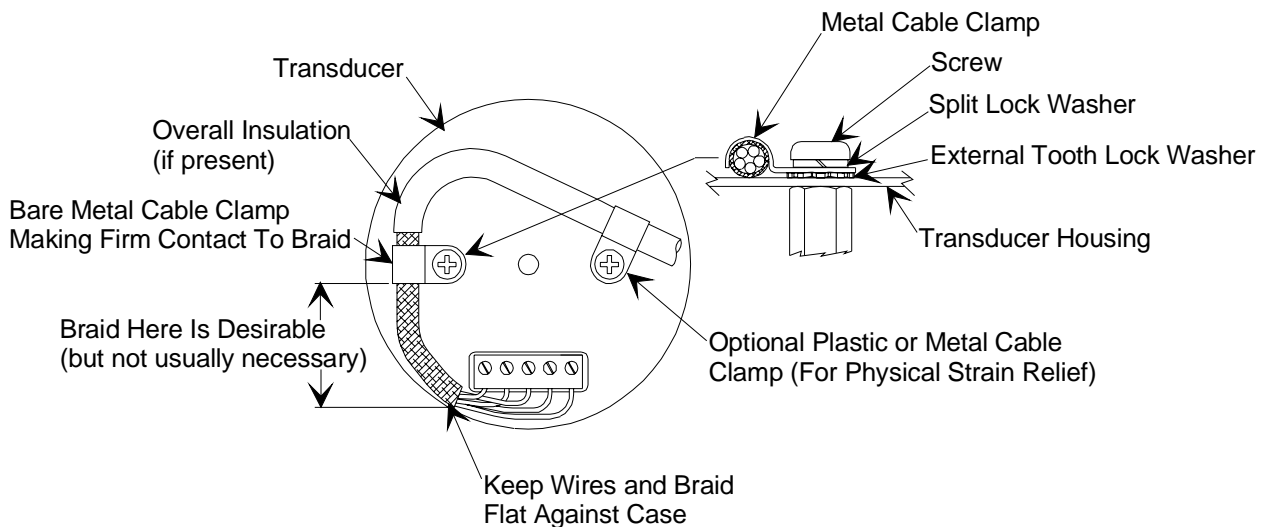

Figure 1: Preferred Method To Connect an Overall Metal Braided Shielded Cable
4. For shielded cables with flying leads at one or both ends. It is important to ground the shield at each such end *before* the wires exit. Make this ground with absolute minimum length. Refer to Figures 1 and 2. (A ¼-inch piece of #22 wire may be undesirably long since it has approximately 5 nH of inductance, equivalent to 31 ohms at 1000 MHz). After picking up the braid ground, keep wires and braid flat against the case. With very few exceptions, grounded metal covers are not required over terminal strips. If one is required, it will be stated in the Declaration of Conformity.